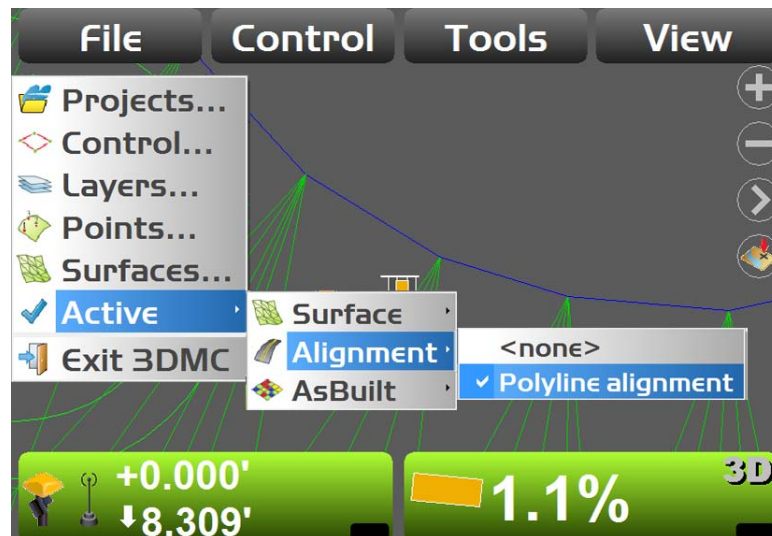

Figure 46: Select an Active Alignment File
2. Select the alignment file to be active on the main screen (Figure 46).